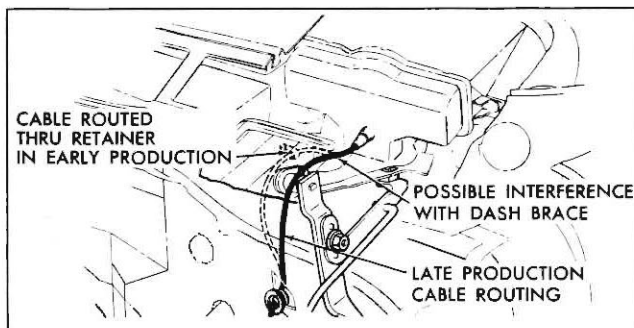

Fig. 5—Passenger Car Speedometer Cable
The speedometer cable routing utilized on early 1961 Passenger Cars can cause cable bind resulting in speedometer drive noise and needle oscillation. This is due to a heavy interference condition that sometimes exists between the speedometer cable and the instrument panel to dash brace. On early production manual transmission equipped vehicles, this condition would be aggravated by the critical bend introduced in the cable as the result of its routing through a plastic retainer on the top of the dash brace. (Fig. 5).
To reduce cable interference at the dash brace and minimize drive shaft bind, a revised speedometer cable routing (Fig. 5) is being used in late production vehicles. To insure a free routing of the speedometer cable in early production vehicles, perform the following:
2. On manual transmission vehicles, route the cable over the top of the clutch pedal shaft housing (located between the pedal arm and dash brace). See Figure 5.